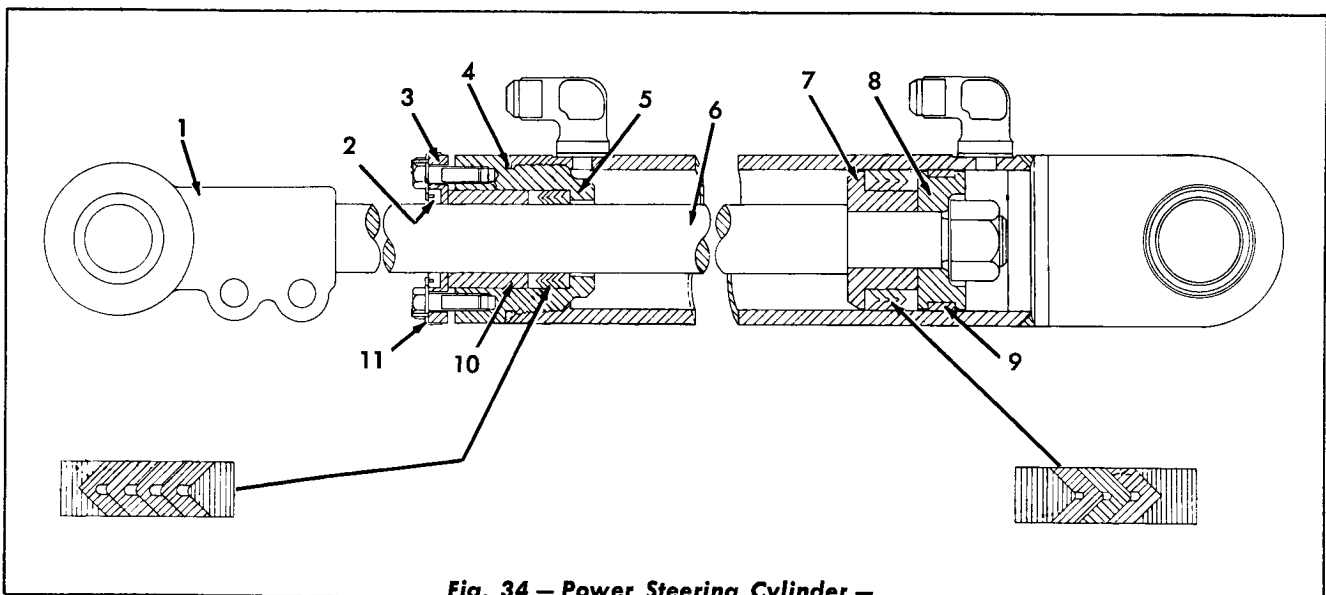

Fig. 34 — Power Steering Cylinder —
2. Bend down the tabs on the lockwashers (Fig. 34) and remove the two capscrews that secure the cylinder end plate to the cylinder head. Slide the end plate and bushing forward on the piston rod.
4. Insert four (4) new packing rings into position in the recess of the cylinder head, being certain that the open end of the "V's" are toward the piston. **CAUTION:** *When installing the packing rings, stagger the gaps so that no two gaps are adjacent and be certain the edges are not overlapped or doubled back.*
4. Remove the locknut, first piston, four (4) packing rings, top and bottom adapter rings and the bearing ring from the piston.
5. Install a new packing set (having a free stacking height of $\frac{1}{16} + \frac{1}{32} - 0$) on the second piston. Shims may be used to attain these stacking heights if necessary. Refer to Fig. 34 for direction and order of assembling piston packing rings.
The wiper seal (Fig. 34) installed in the end plate of each hydraulic cylinder, serves to wipe off dirt and foreign material from the piston rod surface. The wiper seal should be replaced when there are indications that the seal is not wiping the rod surface properly. Replace the wiper seal as follows: